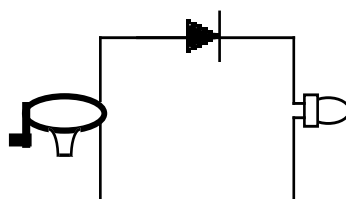
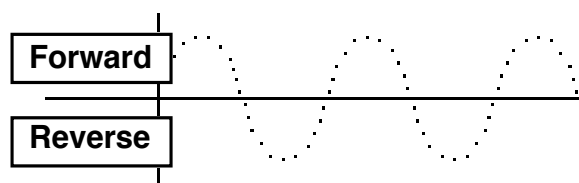

Figure 9.6b
Figure 9.7b
2. Add the diode as shown in Figure 9.6b, and observe the LED as the handle moves in both directions.
1. In Figure 9.7b, sketch over the dotted lines for AC line voltage to describe the voltage across the LED for a rectifier circuit like that shown in Figure 9.6b with one diode and no capacitor.